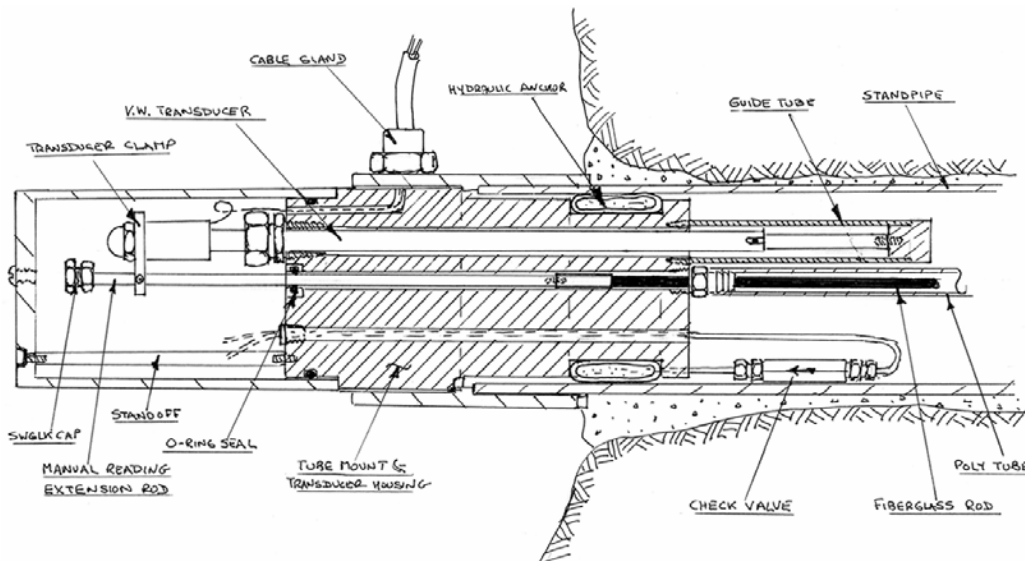

Figure 5
- 5.2.1 A typical MPBX head assembly, designed to accept vibrating wire displacement transducers and also permit manual readout is shown in figure 5. In this arrangement the transducers are not directly in line with the fiberglass rods but, instead, are recessed in guide tubes alongside the rods, leaving the tip of the rods free to be sensed by a dial indicator.